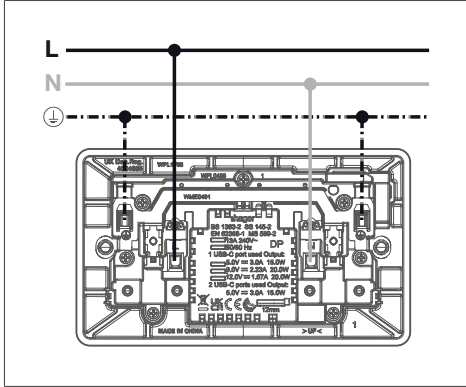

Fig. 3: Electrical connection
- Connect the device (1) according to the diagram (Figure 3).